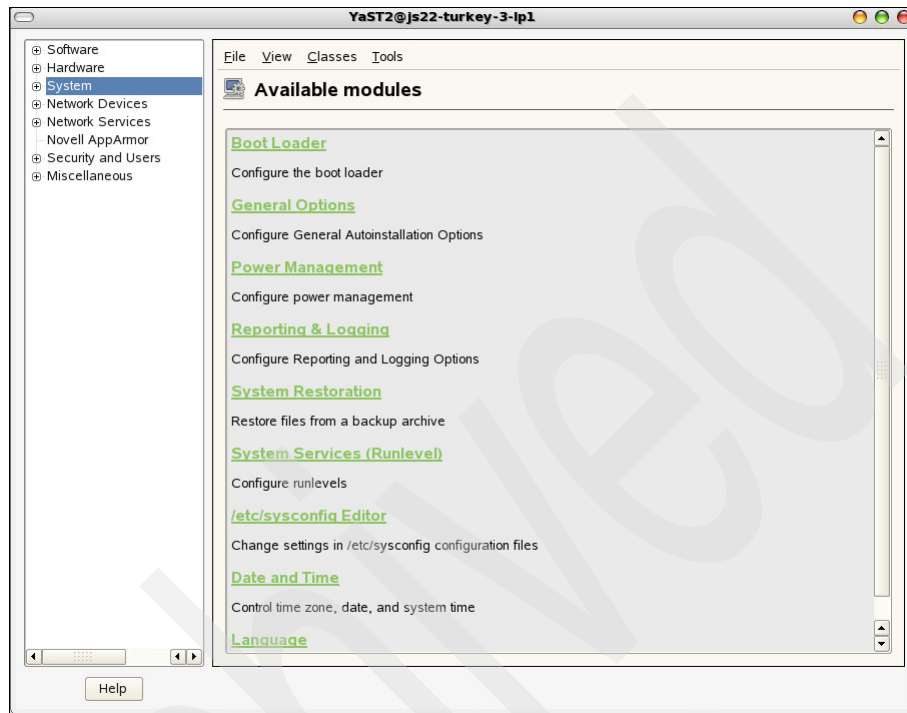

Figure C-4 Main AutoYaST menu (SLES10 SP2)
2. After the selection, the main AutoYaST configuration window opens as shown in Figure C-4.